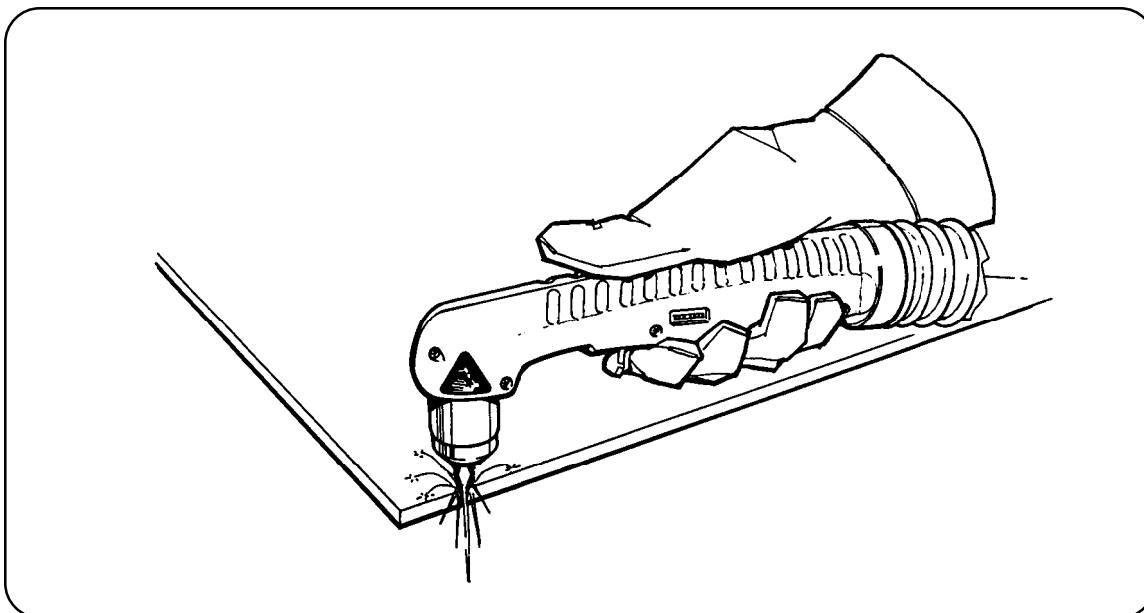

Figure 4-6 Starting a Cut
- Start cutting from the edge of the workpiece (Fig. 4-6). To penetrate fully and cut cleanly through the workpiece, pause momentarily at the beginning and at the end of each cut.